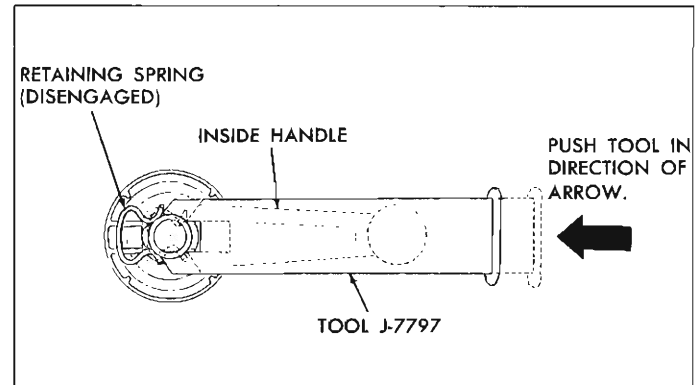

Fig. 5—Disengaging Handle Retaining Spring
2. Position handle on spindle at same angle as handle on opposite door and push handle until spring is engaged (see Figure 5).